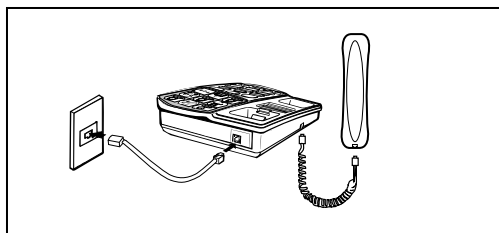

Figure 3 -Connections and installation
2. Connect telephone line cord to telephone as shown in figure 3.
3. Connect handset cord to the telephone as shown in figure 3.
5. Connect the handset cord to the telephone as shown in figure 3.